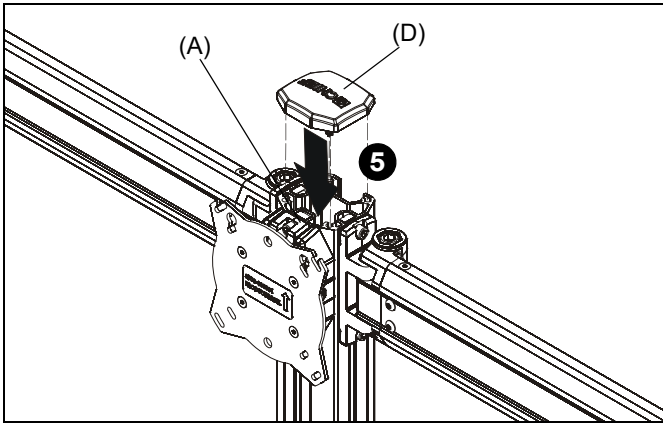

Figure 5
- Snap column cap (D) onto top of column assembly (A). (See Figure 5)